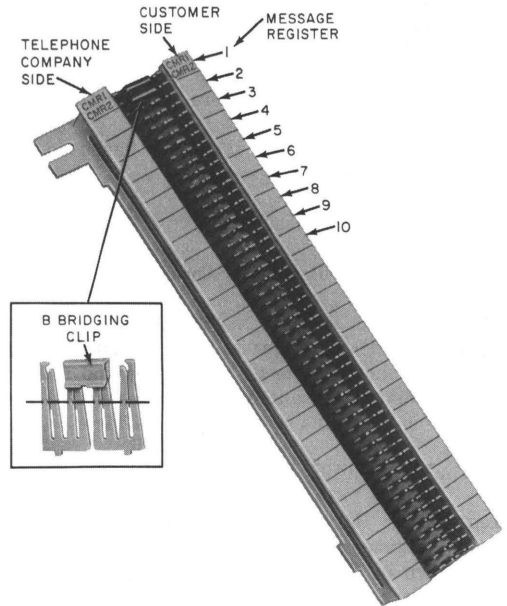

Fig. 2—Typical Interface Connecting Block
4.03 Terminate output leads for required quantity of circuits to the customer equipment on the 66M1-50 connecting block (stencil lead designations on designation strip, Fig. 2) which serves as an interface connecting block.